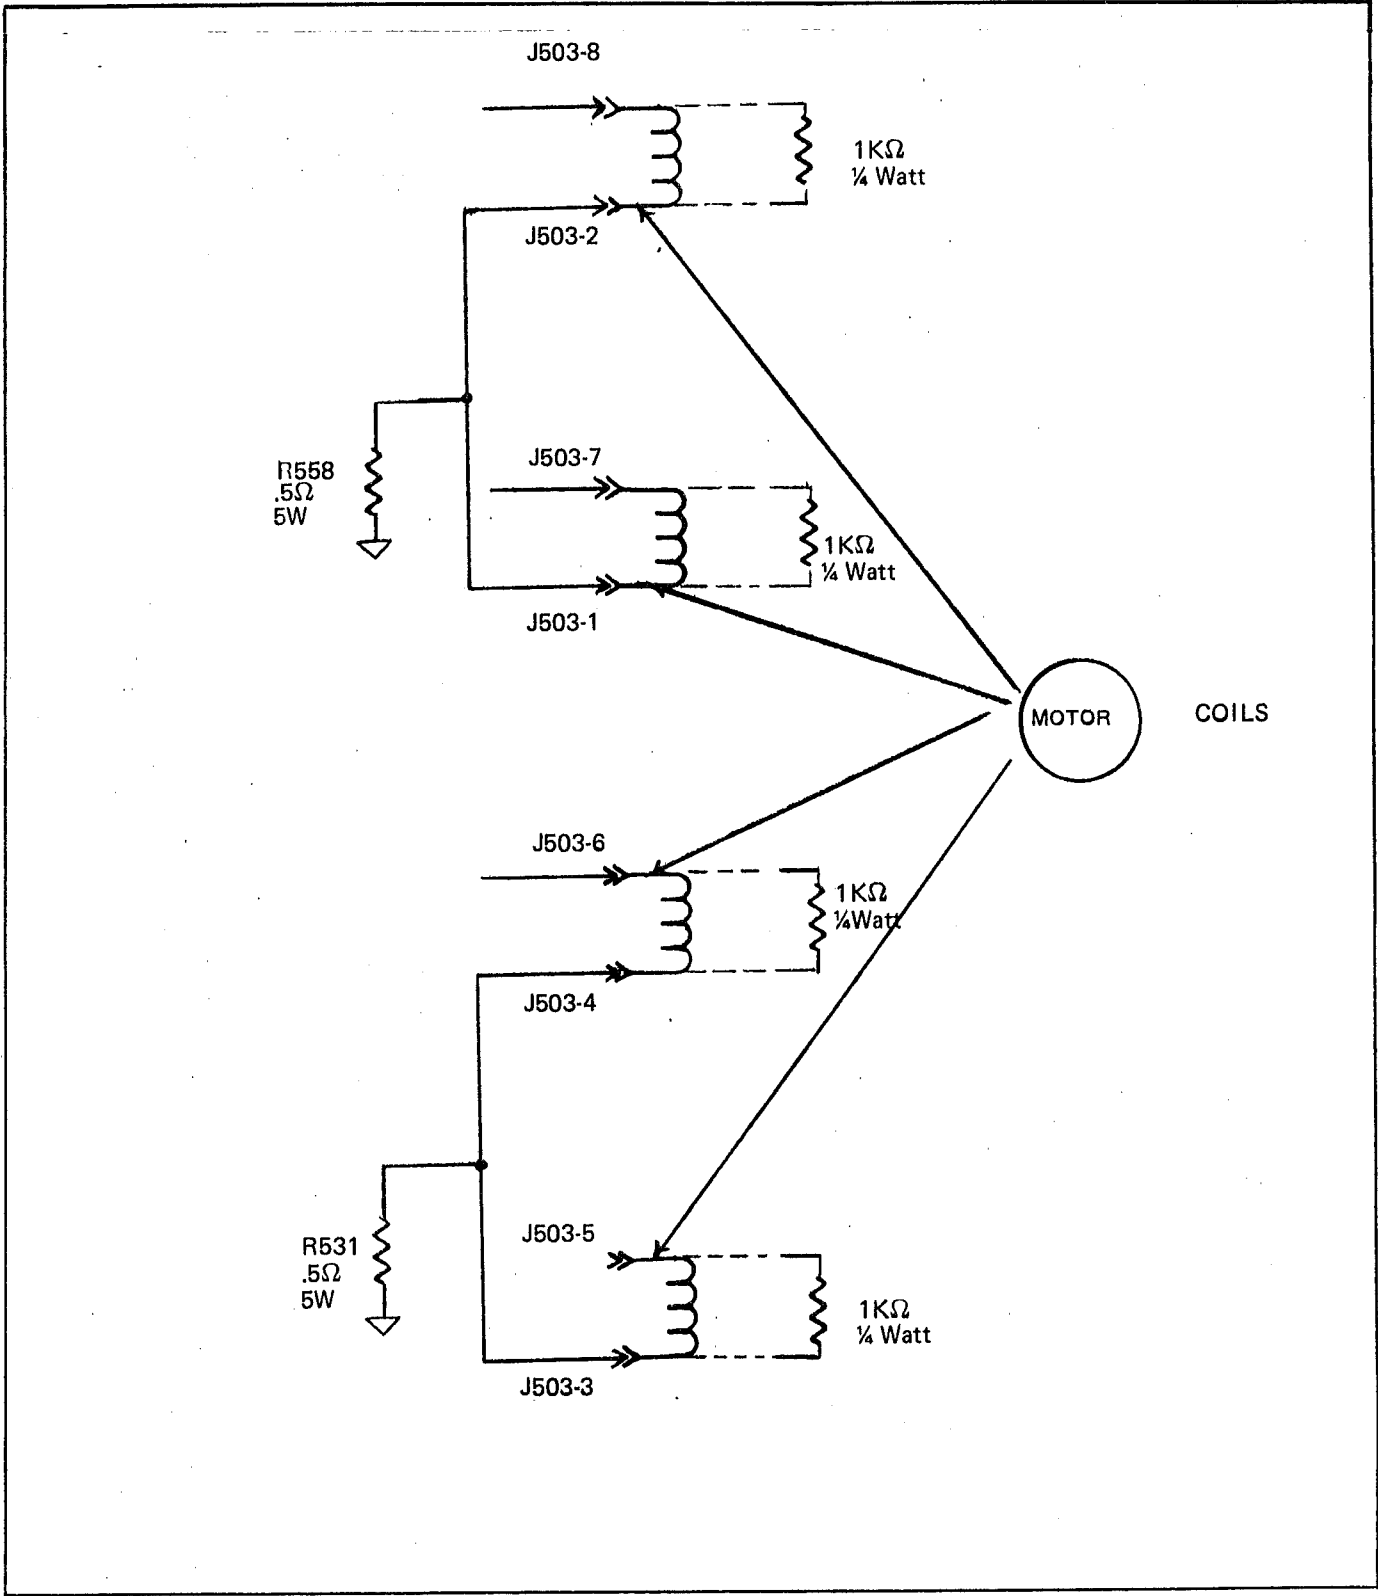

FIGURE 5-21 STEPPER MOTOR COILS
3. Connect 4-1K ohm $\frac{1}{4}$ watt load resistors to J503 pins 8 and 2, 7 and 1, 6 and 4, 5 and 3, to substitute the disconnect motor coils. (Refer to Figure 5-21).